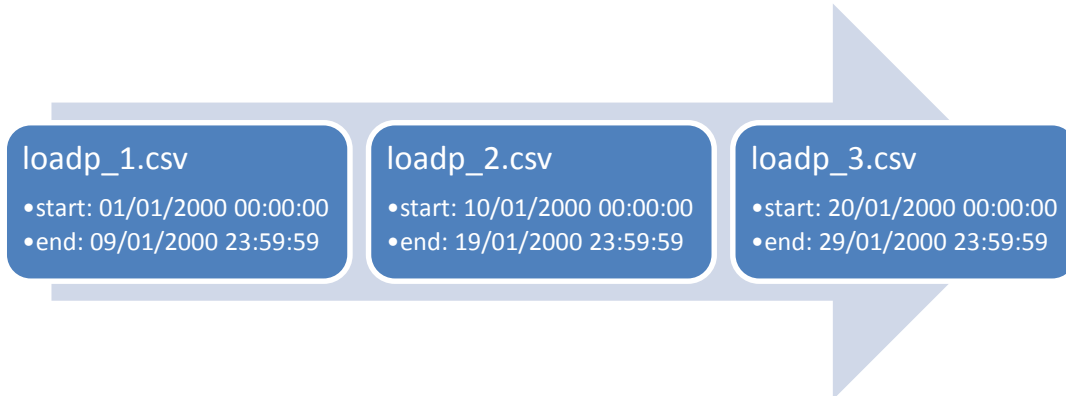

Figure 34 Chaining multiple CSV files
- Whilst using Excel is convenient, it is not an ideal tool for generating large 1 second time series data. However, the multi input file flexibility of Asim would allow many 12-day CSV files to be specified as long as the time stamps were continuous. See Figure 34 for an example.